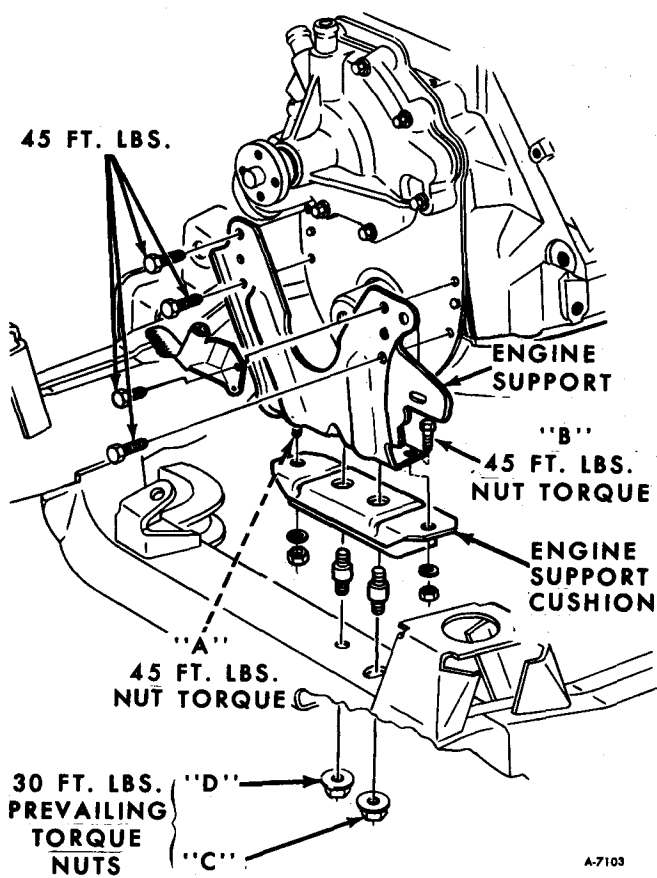

Figure 10—Engine Front Mounting
2. Referring to figure 10, remove bolts "A" and "B". Also remove nuts "C" and "D".